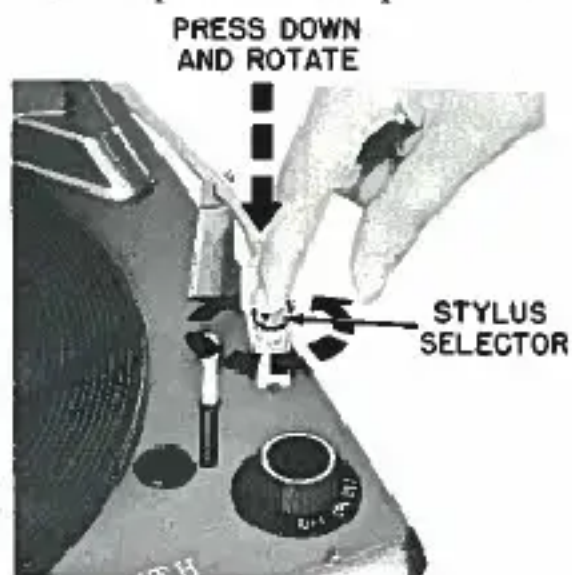

Figure 3—Stylus Selector
4. To rotate the stylus selector to either "78" or "LP" position, place tone arm onto tone arm rest, push stylus selector down and rotate 180° (See Fig. 3). The choice will be determined by the type record being played.